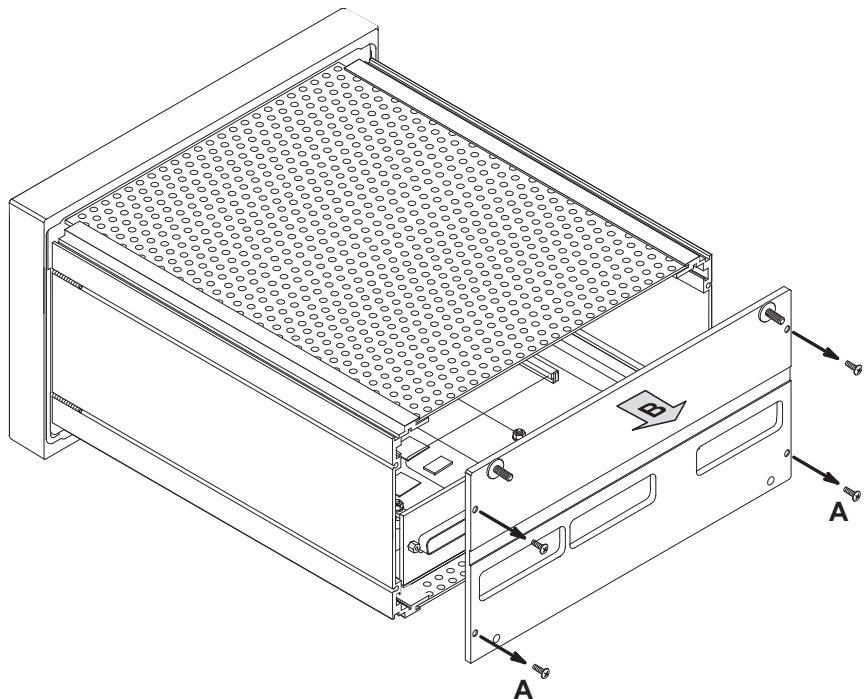

Fig. 8-23: Removing the rear cover panel
4. Open the unit's rear cover panel (four screws) and store them (fig. 8-23).